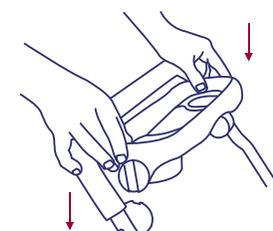

Fig. 4
- To attach the parent tray, position the tray so that the warning statement on the inside can be read from the normal position of pushing the stroller. Push the tray male end fittings into the plastic female fittings on the inside of the stroller handle. Check that the tray is securely latched in place. Please see figure 4. To remove parent tray, pull upward on the tray.